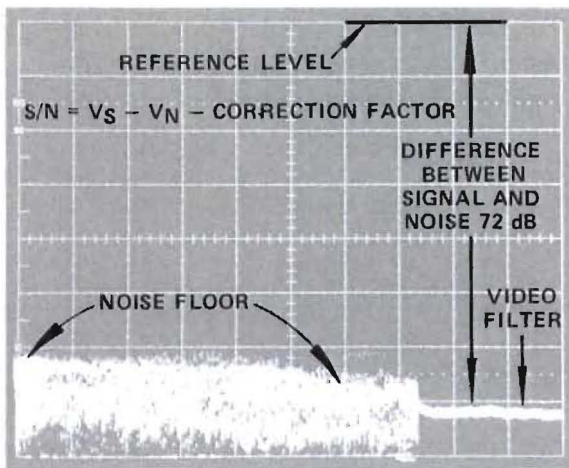

Figure 36 Measuring the Noise Floor
4. Switch the 1000 Hz tone off, install a shorting jumper and observe the noise floor on the display. Use the analyzer VIDEO FILTER to average the noise so the **amplitude of the noise floor (V_N)** can be measured as shown in Figure 36.